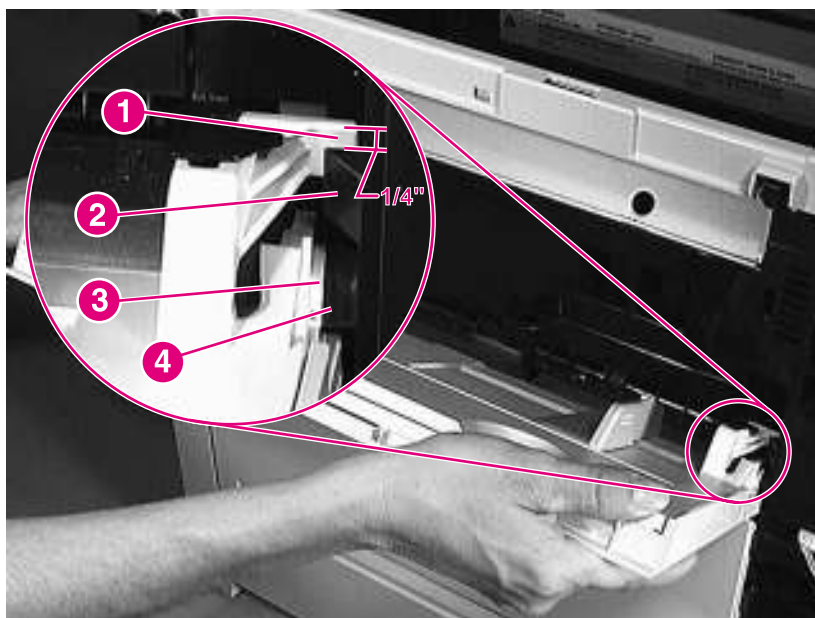

Figure 6-26 Tray 1 Removal (1 of 3)
- 1 Remove Tray 1 (see figure 6-26).